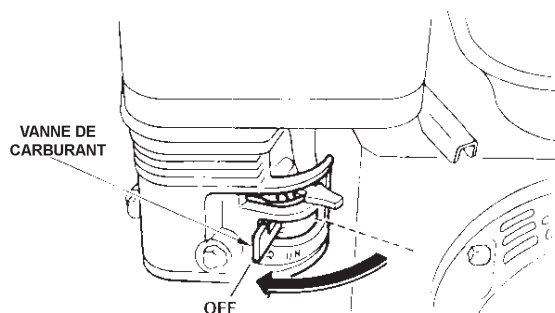

Figure 16. Levier du robinetvanne <?> de carburant (Position ARRÊT)
- Close the *fuel shut-off valve* (Figure 16) by moving the fuel valve lever to the position ARRÊT.